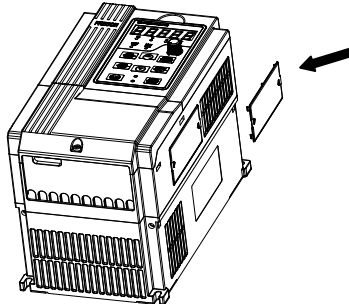

Fig.3-8 Dust cover installation and removal
a. Install dust cover : The dust cover shown in Fig3-8 parallel to the housing assembly (No cock around is installed) .